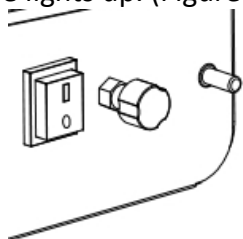

Figure.3
- Regulate the flame and output by turning the adjustable knob anticlockwise to increase or clockwise to decrease. (Figure 3).